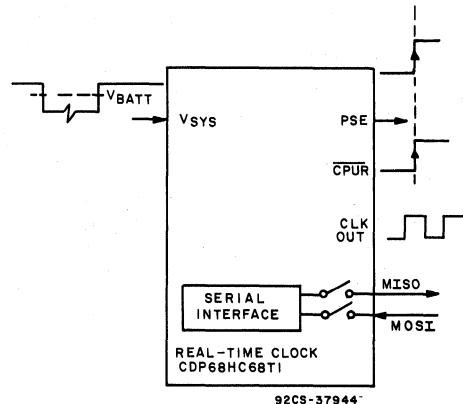

Fig. 6 - Power up functional diagram (Initiated by a rise in voltage on the " $V_{SYS}$ " pin).
**WATCHDOG FUNCTION (See Fig. 6.)**
The second condition that releases Power Down occurs when the level on the  $V_{SYS}$  pin rises about 1 volt above the level at the  $V_{BATT}$  input, after previously falling to the level of  $V_{BATT}$ . See Fig. 6.